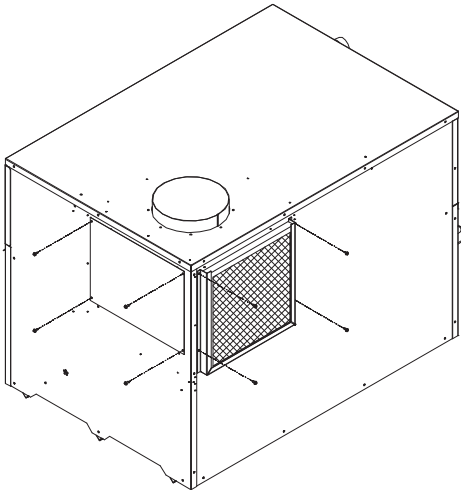

Figure 4 – Metal Panel Covering Side Combustion Air Inlet
1. Remove the metal panel from the pool heater's side wall (see Figure 4).